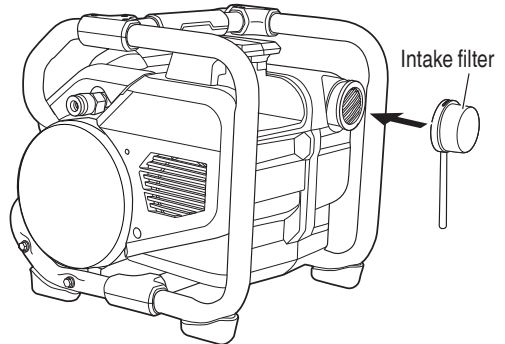

Fig. 6B
- Check to see if the intake filter cap is loose. If the filter is loose, remove and reinstall the filter. (Fig. 6B)